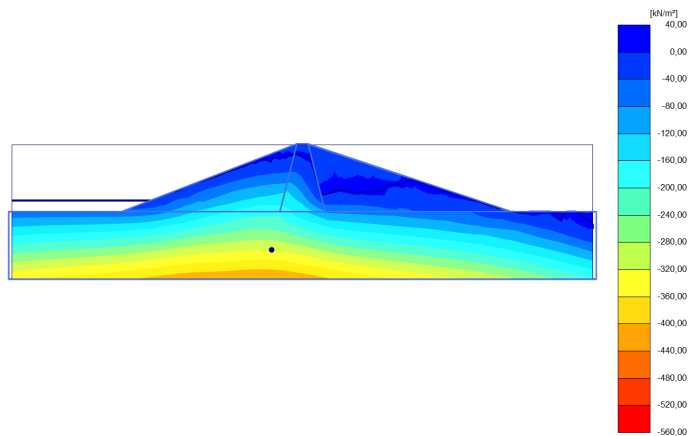

Figure 6.11 Pore water pressure distribution after rapid drawdown (Phase\_1)
- The situation after rapid drawdown of the reservoir level (Figure 6.11).